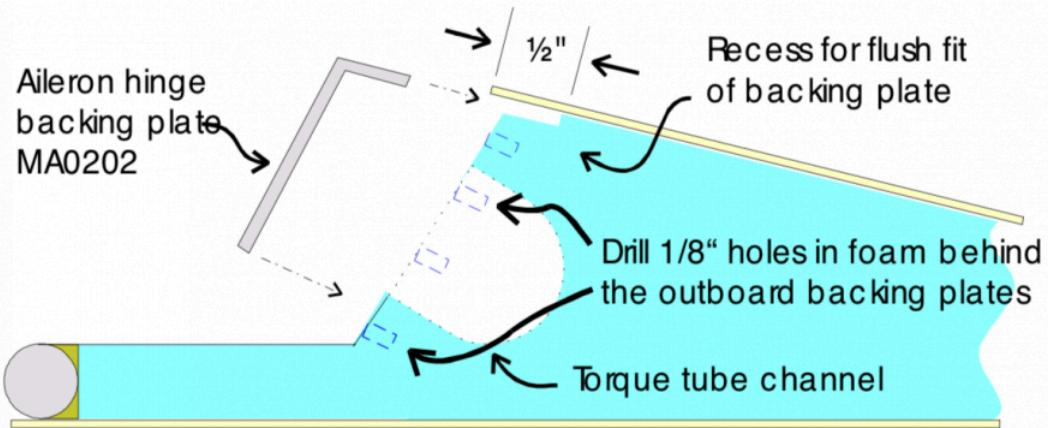

Figure 2-42. Hinge Backing Plate Installation - Cross Section
- Check the fit of the backing plate in the slot, then recess the foam just a bit so that the plate fits flush with the forward face of the aileron (see Figure 2-42). A slight modification to the bend in the backing plate may be necessary to get it to conform to the rest of the aileron face. You want the bend in the plate as close to the upper **leading edge** as possible, but still want the plate to be flush with the forward face of the aileron.